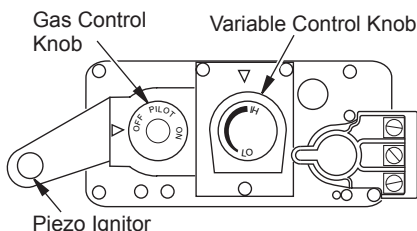

Figure 51 - Control Valve
5. Wait five (5) minutes to clear out any gas. Then smell for gas, including near the floor. If you smell gas, STOP! Follow "B" in the safety information on page 26. If you don't smell gas, go to the next step.
7. Turn gas control knob counterclockwise  to PILOT (see Figure 51).